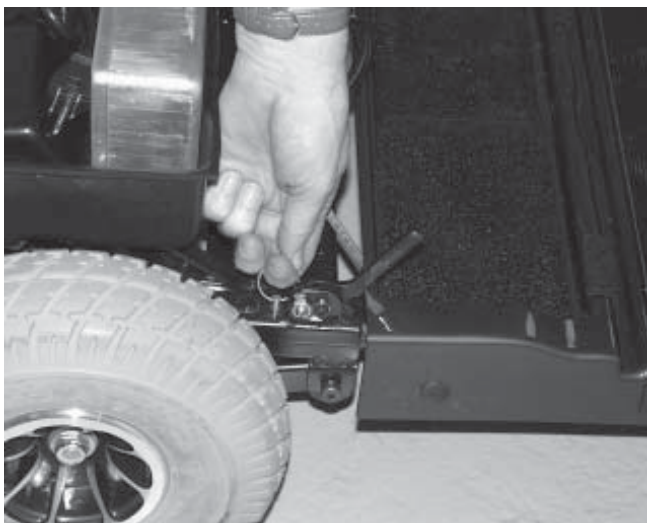

Figure 24. Removing Ball Detent Pins with Rings
11. Remove the ball detent pins and lift the locking cam levers. See figures 24 and 25.